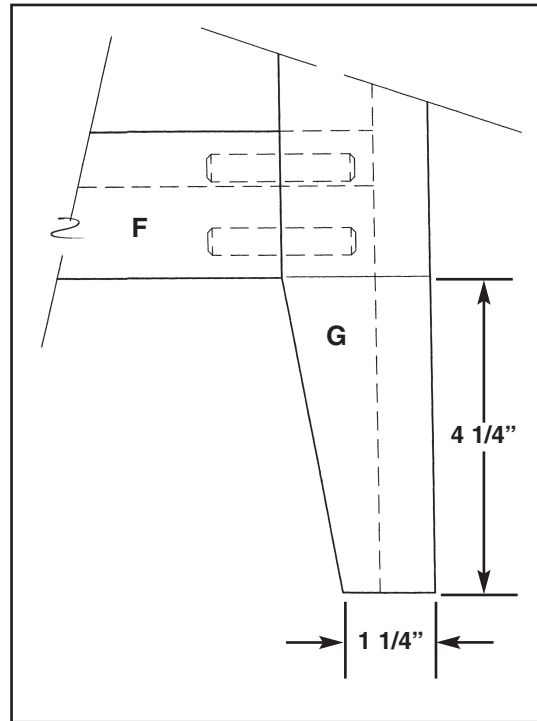

Figure 3
4. Cut legs on boards (G). Refer to Figure 3, Isometric and Front View.
6. Assemble face frame (E, F and G) using dowel pins and glue. Refer to Figures 3 and 4, Isometric and Front and Side Views. Check for squareness.